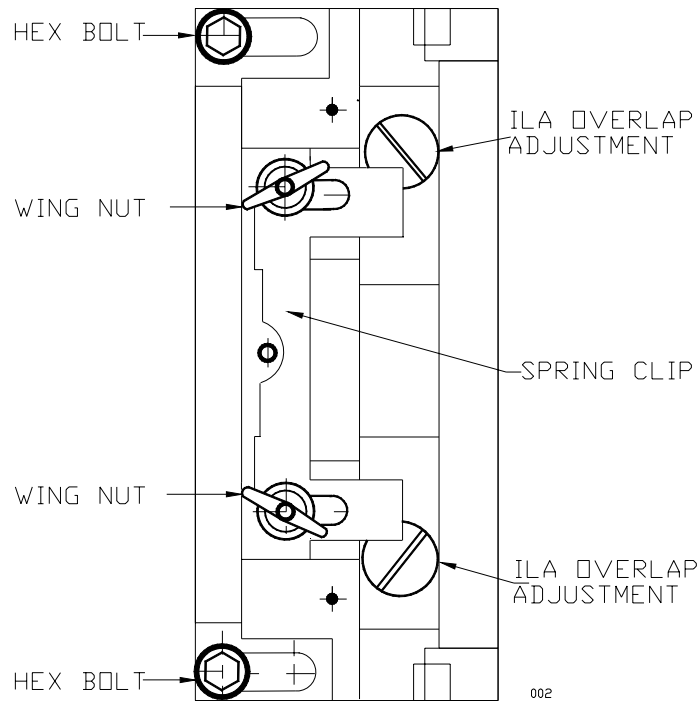

Figure 4-12. ILA[®] Assembly top view. The overlap screws shown are visible after the ILA[®] assembly is removed.
4. Loosen the two wingnuts at the top of the appropriate ILA[®] assembly (*Figure 4-12*).
5. Slide the spring clip at the top of the ILA[®] assembly backward (*Figure 4-12*). This will free the ILA[®] assembly.
6. Remove the 2 long hex bolts at the front of the Relay Lens (*shown in Figure 4-12*).
4. Rotate the Projection Lens left or right so that the notch on the lens clears the locking screw on the lens holder (*Figure 4-12*). Carefully slide the lens out.